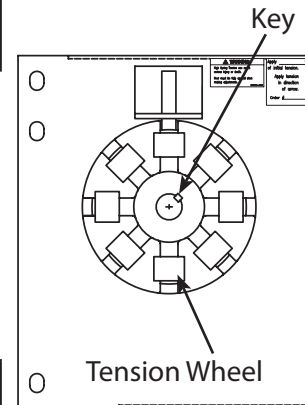

Figure 11a
- Use a 3/8 or 1/2 key to secure Tension Wheel to shaft. See Figure 11a and 11b.